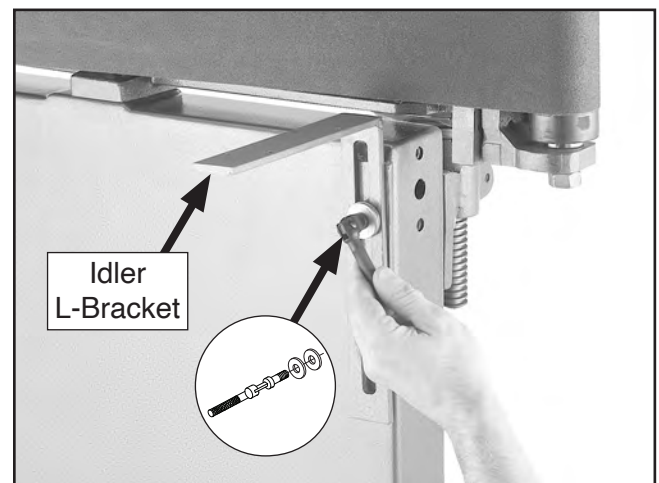

Figure 25. Idler L-bracket installed.
5. Repeat **Step 4** with idler L-bracket at rear left of machine, as shown in **Figure 25**.